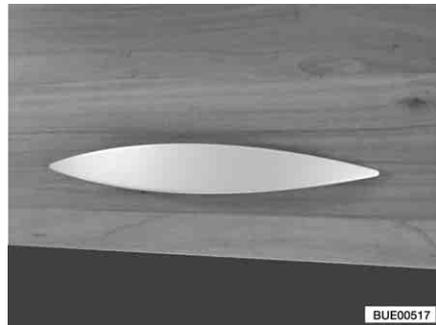

Fig. 41 Furniture flap with handle (example)
- Pull handle (Fig. 41) until furniture flap is open.